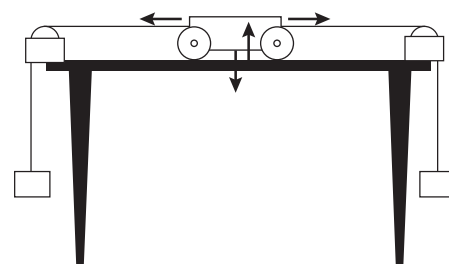

Figure 2
5. Instruct students to make a drawing of all the forces acting upon the car in their science notebooks (figure 2). Students should understand that the strings pulling on either side of the car are forces. Is the car moving up or down? Why not? (The force of the table on the car and force of the car on the table are equal and opposite and therefore there is no change in motion.) Is the car moving side to side? Why not? (The forces pulling the car right and left are equal and opposite and therefore there is no change in motion.)